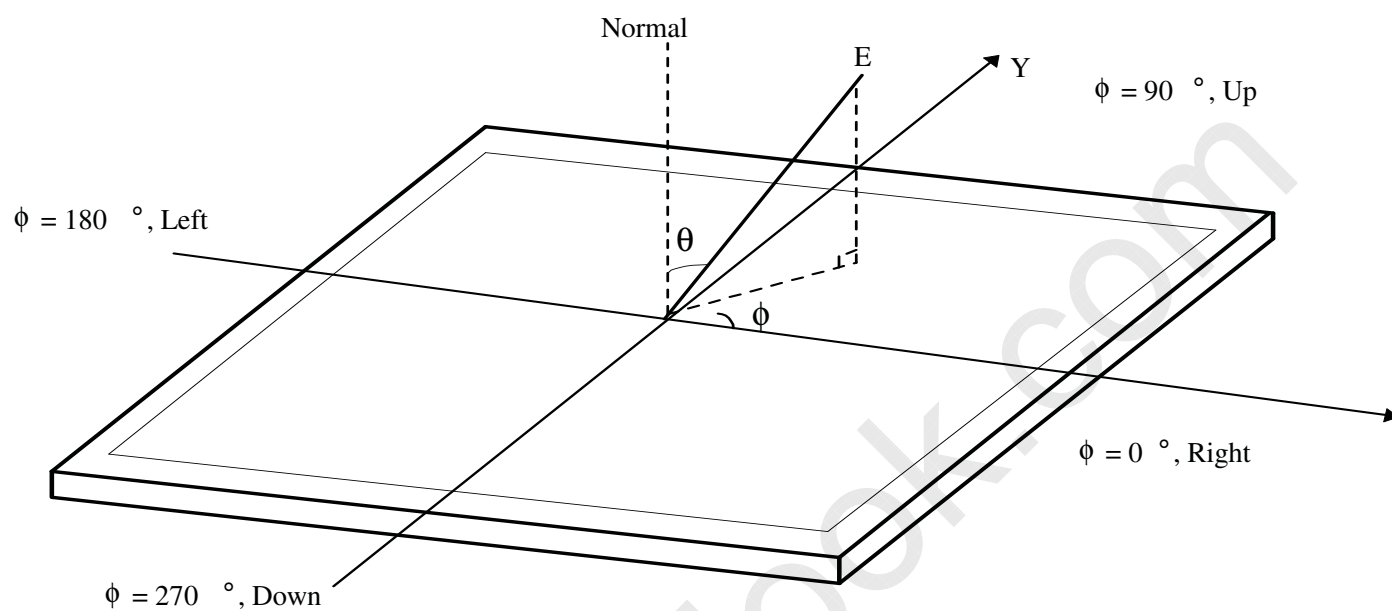

FIG.12 Viewing Angle
4. Response time is the time required for the display to transit from G(255) to G(0) (Rise Time, Tr_R) and from G(0) to G(255) (Decay Time, Tr_D).
5. Viewing angle is the angle at which the contrast ratio is greater than 10. The angles are determined for the horizontal or x axis and the vertical or y axis with respect to the z axis which is normal to the LCD module surface. For more information, see the FIG. 12.